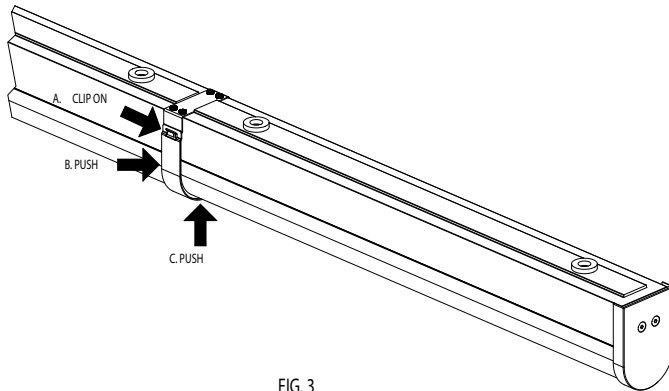

FIG. 3
23. Install joiner band(s). See fig. 3 & 4.